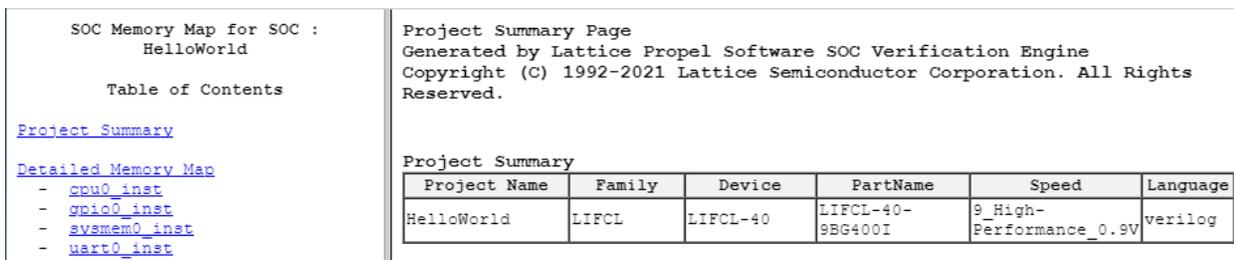

Figure 2.54. Memory Report
- From the toolbar of the Propel Builder main window, click the **Generate Memory Report** icon . The SoC design memory information is generated. The memory report folder (mem\_report) is generated. All design memory information is shown in detail in the memory report files. The Memory Report files are in HTML format (Figure 2.54).